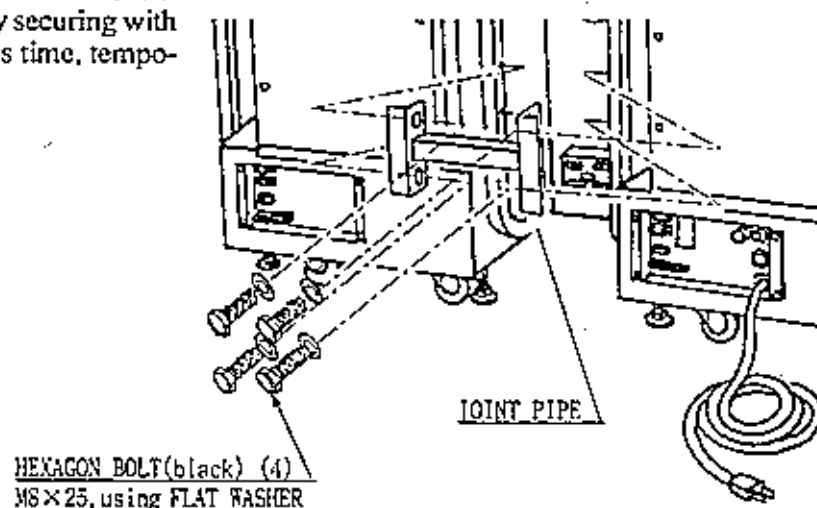

FIG. 6.3
- ③ Install the joint pipe on to the back-side of both cabinets by securing with 4 hexagon bolts (at this time, temporarily) (Fig. 6.3)